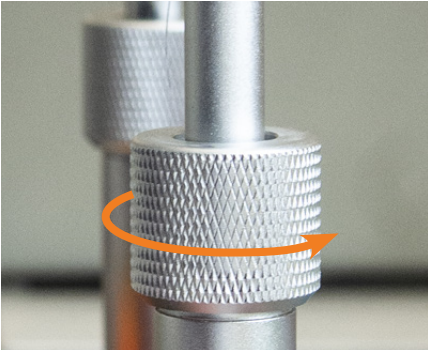

Figure 13
1. Rotate the knobs on the sides of the thread rack support counterclockwise to loosen them. **See Figure 13.**